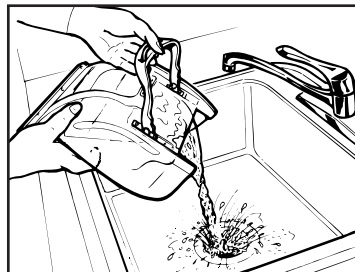

Fig.7/4
- Rinse dirty water tank and filter with lukewarm (max 40°C) water. Wipe and let dry thoroughly before storing to prevent mildew from forming. The foam filter can be removed for easier cleaning and air drying (Fig.7/5).